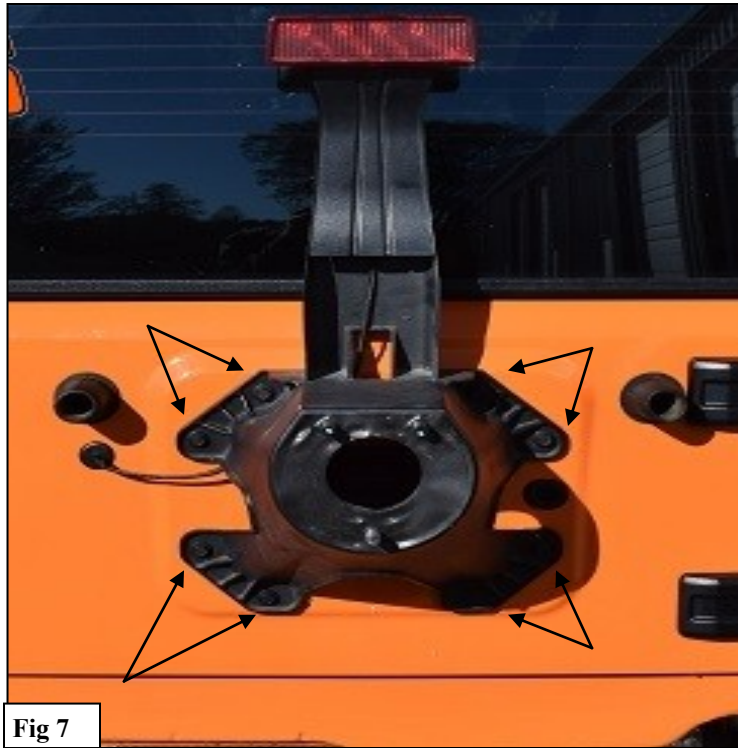

Fig 7
8. Remove the bolts securing the factory tire carrier to the tailgate. See **Figure 7**.